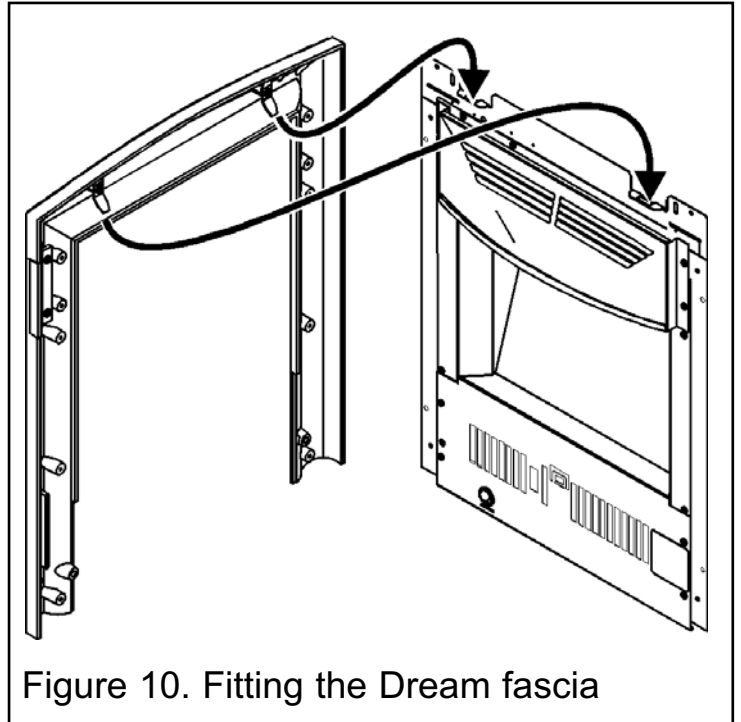

Figure 10. Fitting the Dream fascia
2. Hold the fascia firmly and lift into place. Locate the fascia hanging brackets into those on top of the heater (See figure 10). Lower the fascia into place and swing the bottom of the fascia towards the heater.